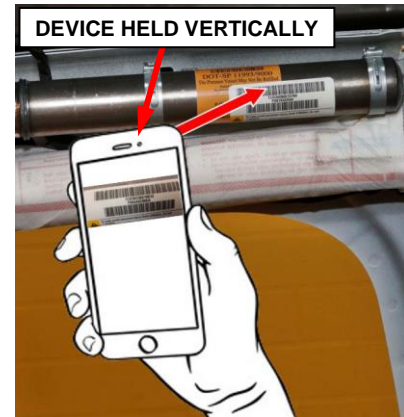

Figure 14 – Scan Barcode
- **Method 1:** Using a smartphone or tablet held vertically, click on the barcode scanner icon (Figure 15) to open the barcode scan function. Ensure the device camera is enabled and device is held vertically. Aim the camera directly at the SABIC traceability number barcode as shown in (Figure 14). The barcode scanner will automatically record the barcode and populate the traceability number entry field (Figure 15). Scan the barcodes for the left side and right side SABIC inflators.